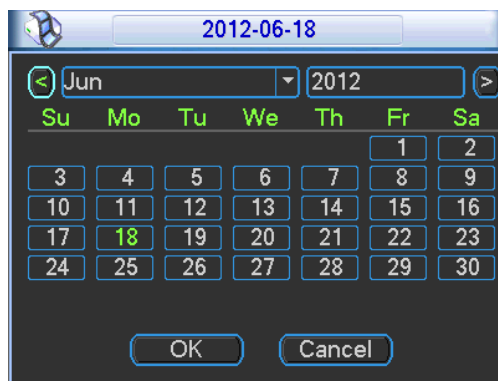

Figure 3-4
- Record types: There are four types: regular, motion detection (MD), Alarm, MD & alarm.
- Holiday setting: Click it you can see an interface shown as in Figure 3-4. Here you can set holiday date. Check the box, it means current channel shall record as your holiday setup. Please go to the Period interface to set the holiday date record setup.